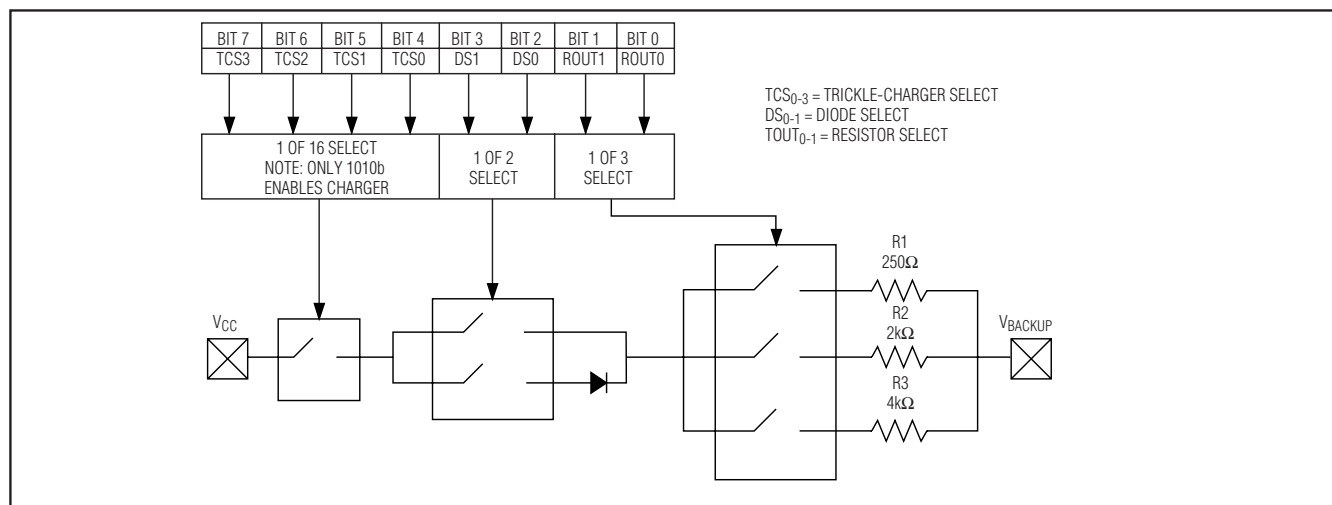

Figure 6. Trickle Charger Functional Diagram
The simplified schematic in Figure 6 shows the basic components of the trickle charger. The trickle-charge select (TCS) bits (bits 4–7) control the selection of the trickle charger. To prevent accidental enabling, only a pattern on 1010 enables the trickle charger. All other patterns disable the trickle charger. The trickle charger is disabled when power is first applied. The diode-select (DS) bits (bits 2, 3) select whether or not a diode is connected between V_{CC} and V_{BACKUP}. If DS is 01, no diode is selected; if DS is 10, a diode is selected. The ROUT bits (bits 0, 1) select the value of the resistor connected between V_{CC} and V_{BACKUP}. Table 3 shows the resistor selected by the resistor select (ROUT) bits and the diode selected by the diode select (DS) bits.